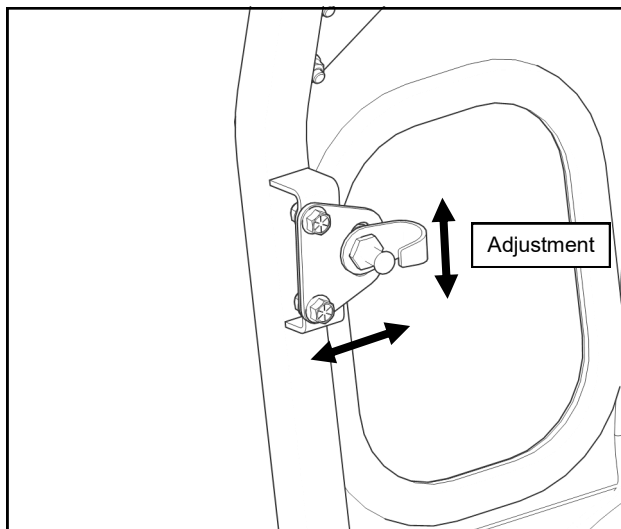

Fig. 27.3 (Striker Pin Adjustment)
- 27.4** Open the door and check for smooth operation of the latch. As noted in step 27.3, the door will likely drop a little bit at the front and the striker pin will need to be adjusted down accordingly. Also make sure the door seal is making contact along the perimeter of the door and the latch clicks twice when closing. If necessary, adjust the striker in or out to achieve this (see Figure 27.3).